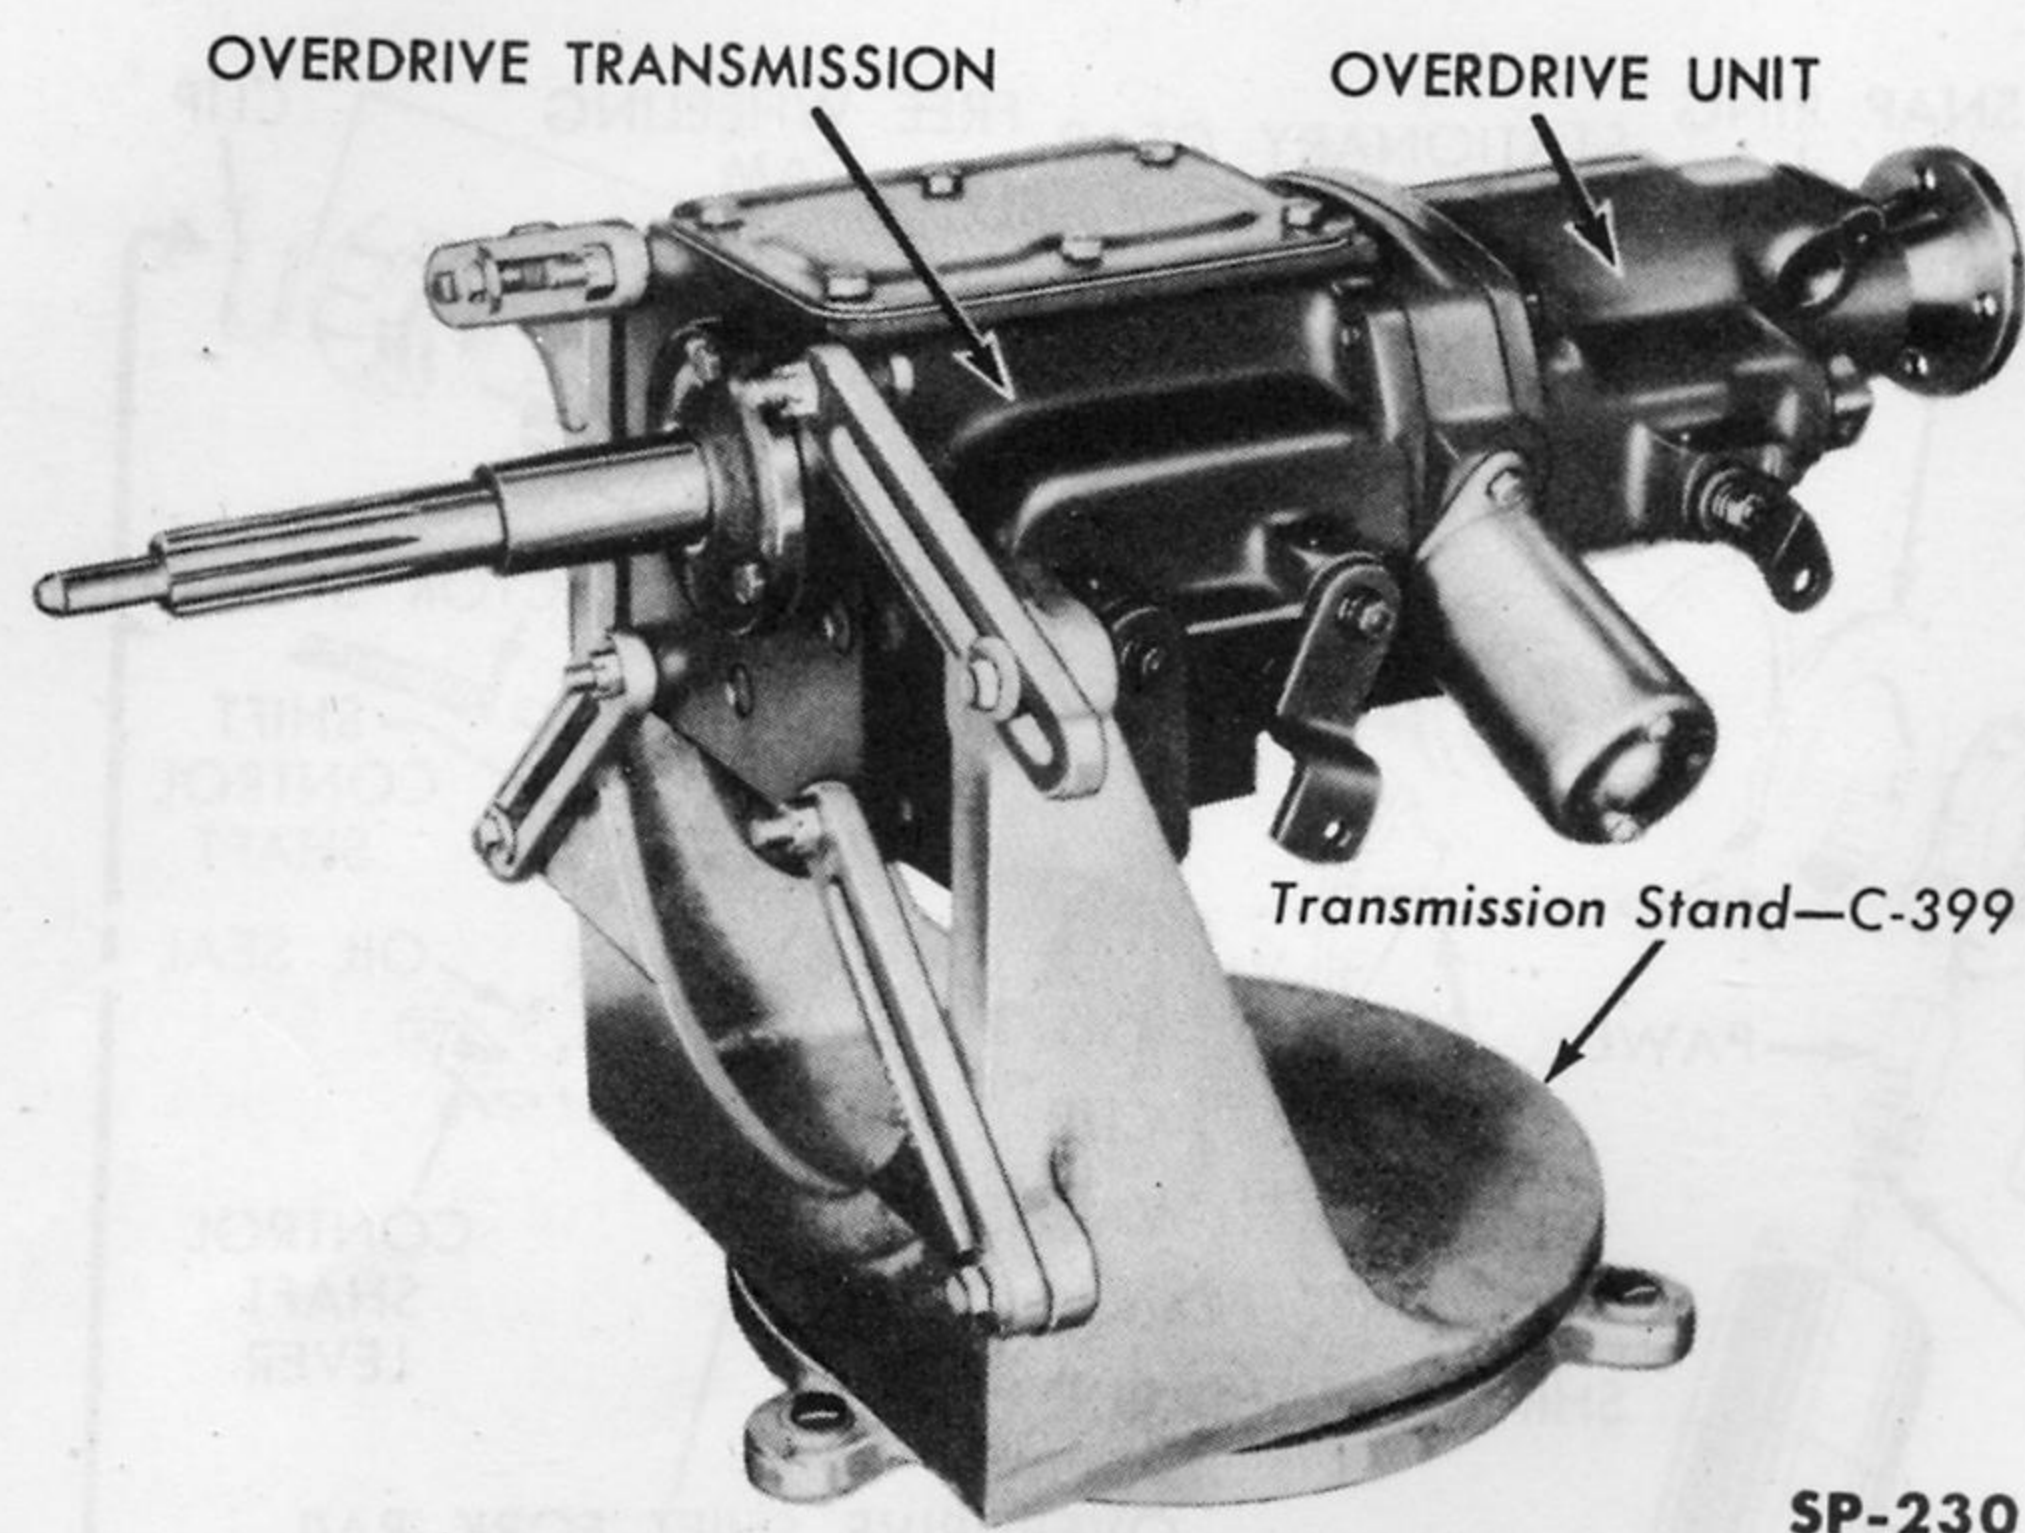

Fig. 209—Overdrive Transmission Mounted In Holding Fixture—Frazer
1. Mount the transmission and overdrive on Transmisison Stand KF-100 or suitable holding fixture (Fig. 209).